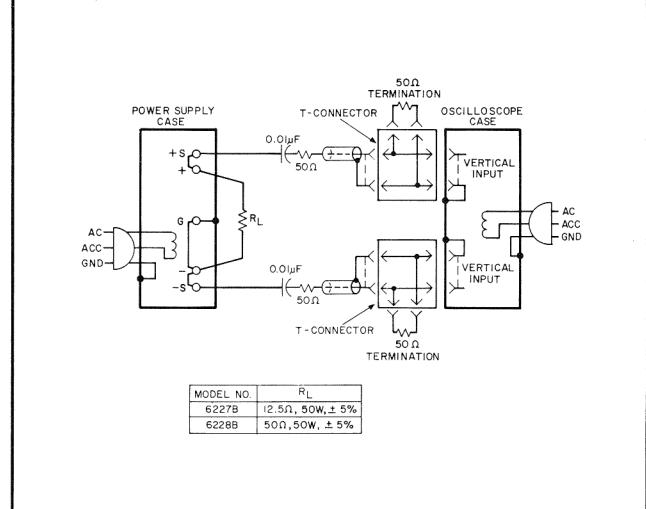

Figure 5-4. Noise Spike Measurement Test Setup
5-25 The test setup illustrated in Figure 5-4 is generally not acceptable for measuring spikes; a differential oscilloscope is necessary. Furthermore, the measurement concept of Figure 5-3B must be modified if accurate spike measurement is to be achieved:
- As shown in Figure 5-4, two coax cables must be substituted for the shielded two-wire cable.
5-26 The setup of Figure 5-4 can also be used for the normal measurement of low frequency ripple; simply remove the four terminating resistors and the blocking capacitors and substitute a higher gain vertical plug-in in place of the wide-band plug-in required for spike measurements. Notice that with these changes, Figure 5-4 becomes a two-cable version of Figure 5-3C.